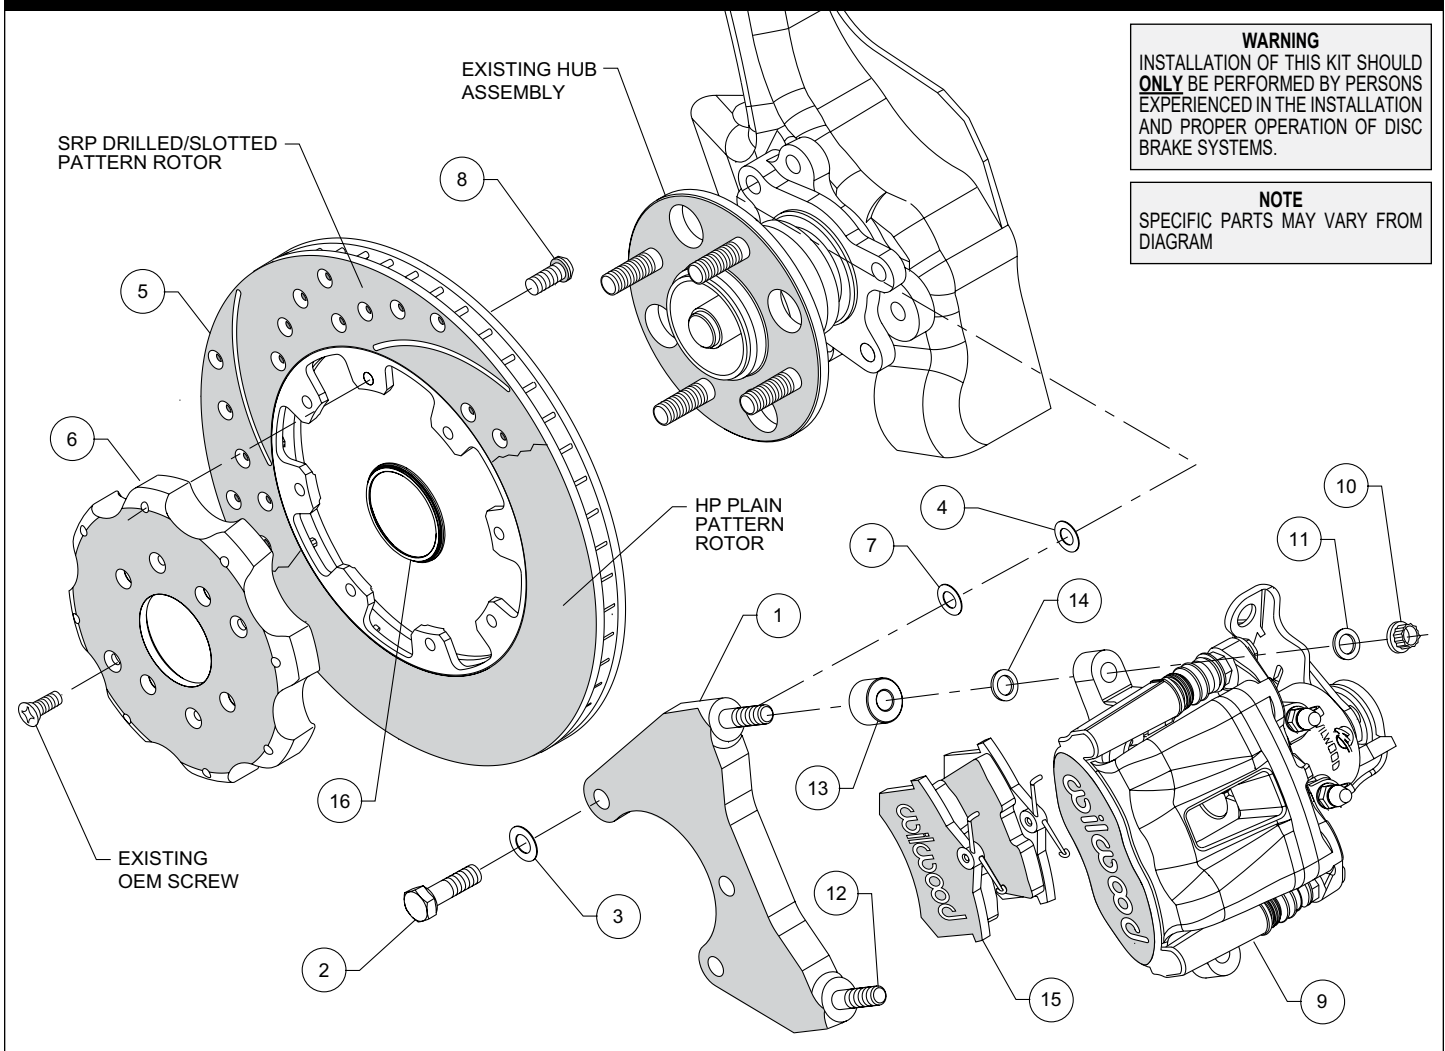

Figure 1. Typical Installation Configuration
**NOTE:** Numbers in parenthesis refer to the parts list and Figure 1 on the preceding pages.
- The caliper mounting bracket (1) should initially be installed with clean, dry threads on the mounting bolts. Orient the bracket as shown in Figure 1, and install using bolts (2) and washers (3). Initially place two .030" thick shims (7) between the bracket and upright, Figure 1 and Photo 1. Temporarily tighten the mounting bolts. **NOTE:** The bracket must fit squarely against the mount bosses on the upright. Inspect for interference from casting irregularities, machining ridges, burrs, etc. Later, after the caliper alignment has been checked, the mount bolts will be secured using red *Loctite*® 271.
- Orient the rotor (5) and hat (6) as shown in Figure 1 and Photo 2. Attach the rotor to the hat using bolts (8). Apply red *Loctite*® 271 to the bolt threads and torque to 25 ft-lb using a criss-cross pattern.
- Install the brake pads (15) into the caliper (9) from the bottom, with the friction material facing the rotor, until the "v" spring clip snaps into place against the anvil, as shown in Figure 1 and Photo 4. They should install easily without interference.
- Lubricate the caliper mounting studs (12) with lightweight oil. Initially place two .035" thick shims (14) and one spacer (13) on each stud as shown in Figure 1. Mount the caliper (9) onto the bracket (1) using lock nuts (10) and washers (11), Figure 1 and Photo 5. Temporarily tighten the lock nuts and view the rotor from the end of the caliper. The rotor should be centered in the caliper, Photo 6. If not, adjust by adding or subtracting shims (4 and/or 7) between the bracket and the upright. Always use the same amount of shims on each of the two mounting bolts. Once the caliper alignment is correct, remove the bracket mounting bolts (2) one at a time, apply red *Loctite*® 271 to the threads, and torque to 40 ft-lb.
- Check that the top of the brake pad (15) is flush with the outside diameter of the rotor (5), Photo 7. If not, adjust by adding or subtracting shims (14) between the caliper and the bracket. After the caliper pad height is set, torque the caliper lock nuts (10) to 30 ft-lb.